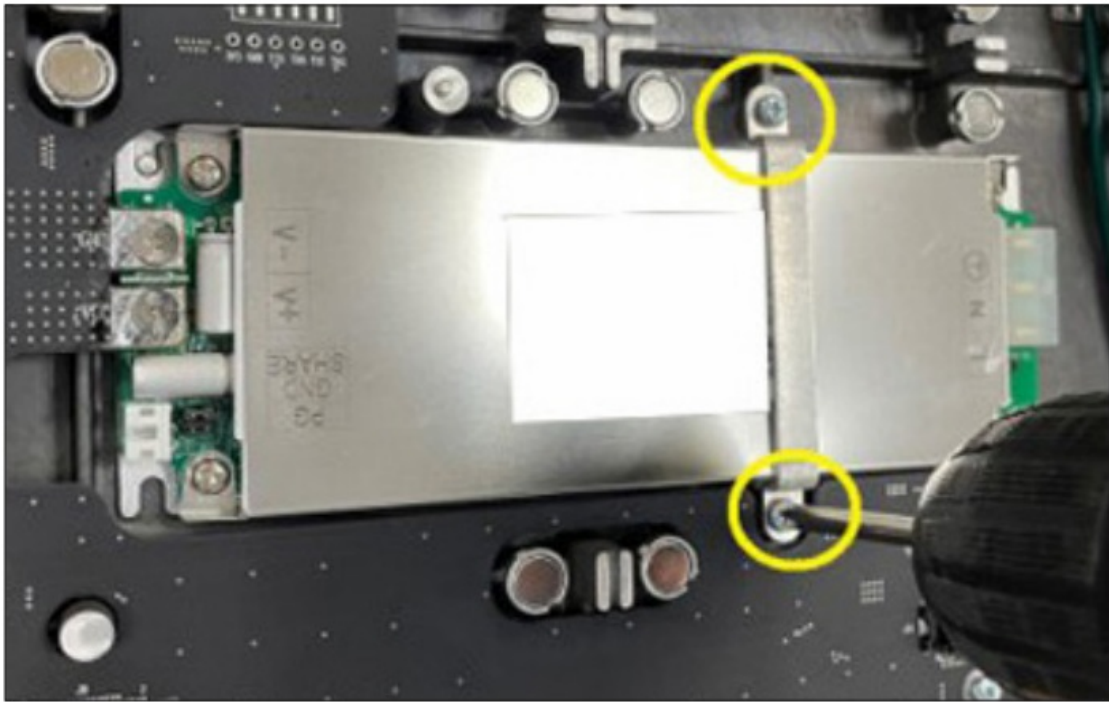

Figure 9: Remove Screws of the Bracket
3. Remove the two screws that secure the mounting bracket to the power supply position. Refer to Figure 9.